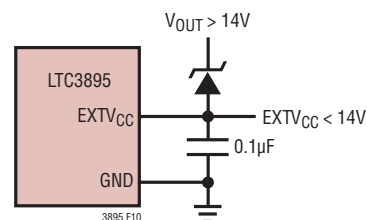

Figure 10. Using a Zener Diode Between  $V_{OUT}$  and  $EXTV_{CC}$
4.  $EXTV_{CC}$  connected to the regulator output through an external zener diode. If the output voltage is greater than 14V, a zener diode can be used to drop the necessary voltage between  $V_{OUT}$  and  $EXTV_{CC}$  such that  $EXTV_{CC}$  remains below 14V (Figure 10). In this configuration, a bypass capacitor on  $EXTV_{CC}$  of at least 0.1μF is recommended. An optional resistor between  $EXTV_{CC}$  and  $GND$  can be inserted to ensure adequate bias current through the zener diode.